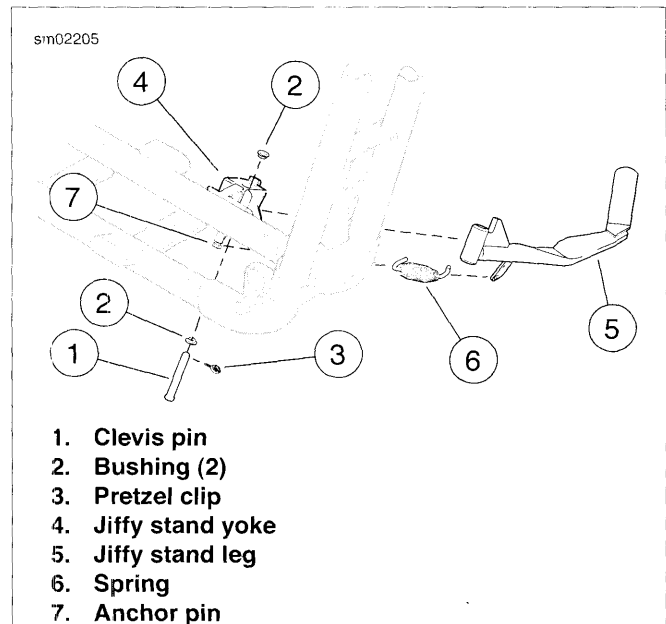

Figure 2-239. Jiffy Stand
3. See Figure 2-239. Place jiffy stand leg in retracted position. Remove and discard pretzel clip (3).
1. See Figure 2-239. See 2.36 JIFFY STAND, Removal above to remove jiffy stand from motorcycle frame.
2. Thoroughly clean all jiffy stand components, including frame-mounted anchor pin and jiffy stand yoke (4).
3. Apply a small amount of SILVER GRADE ANTI-SEIZE (Part No. 98960-97) to pivot holes of jiffy stand leg (5) and yoke, groove of anchor pin and O.D. of clevis pin (1).
2. See Figure 2-239. Hook either end of spring (6) into spring mounting hole on jiffy stand leg (5). Install other end of spring over frame mounted anchor pin (7).
3. Install bushing (2) onto clevis pin (1) with shoulder of bushing facing head of clevis pin.
4. While holding end of spring in groove of anchor pin and holding jiffy stand leg in its retracted position, place pivot end of jiffy stand leg into yoke (4) on motorcycle frame. Insert clevis pin (1) up through lower pivot hole of yoke and halfway into pivot hole of jiffy stand leg.